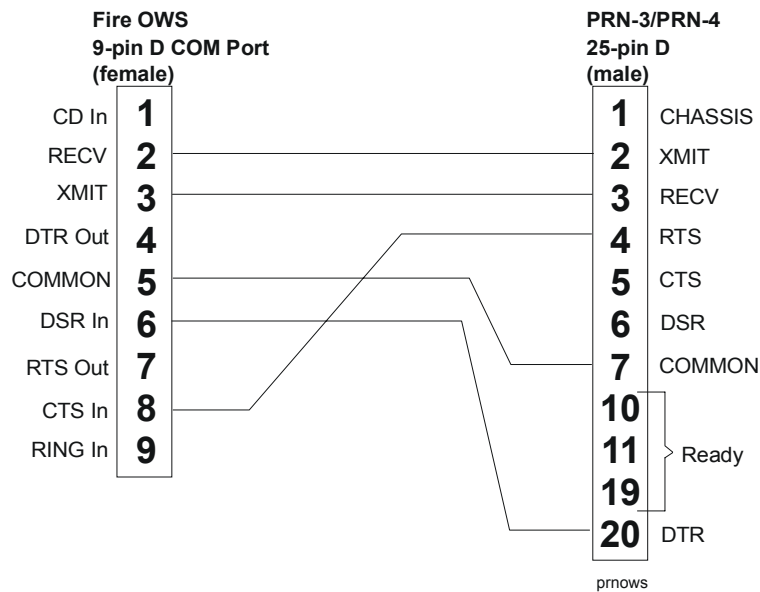

Figure 11: Cabling Between 9-pin PC COM 1 Port and PRN-3, PRN-4, or JPRN-5 25-pin Cable
2. Connect one end of the printer cable to the printer and the other into the COM 1 serial port on the Fire OWS. The cable must be field assembled. (See Figure 11 for pinouts.)